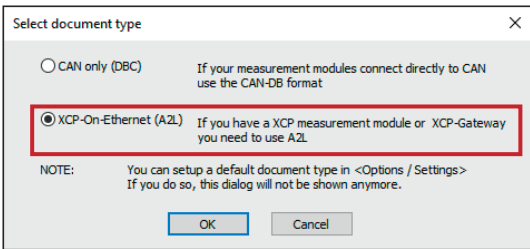

Fig. 5-9: **Select document type** dialog, **XCP-on-Ethernet (A2L)** selected
⇒ The **Select document type** dialog (Fig. 5-9) opens.
- ⇒ The **Select document type** dialog (Fig. 5-9) opens.